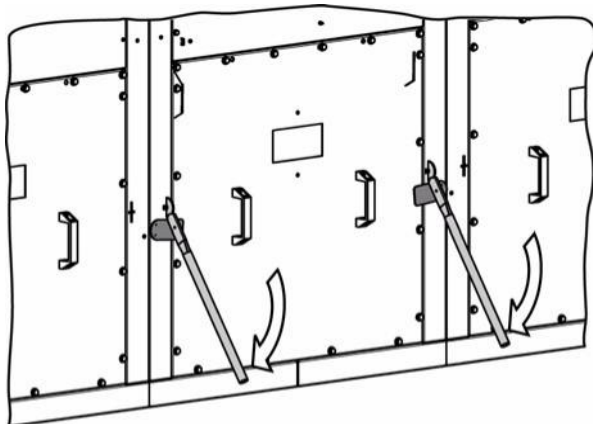

Fig96. Operating handles for withdrawable voltage transformers (movement for connecting)
- ⑦ HV HRC fuse-link
- ⑧ Voltage transformer
- ⇒ Insert the rear cover by means of the handles (in fig96).
- ⇒ Push down the operating levers to connect the withdrawable voltage transformers (fig96).